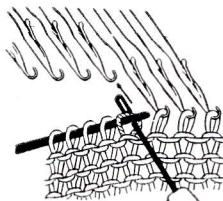

Fig. 47
- b. Transfer the stitch on the transfer needle onto the hook of needle in the knitter. (See Fig. 47)